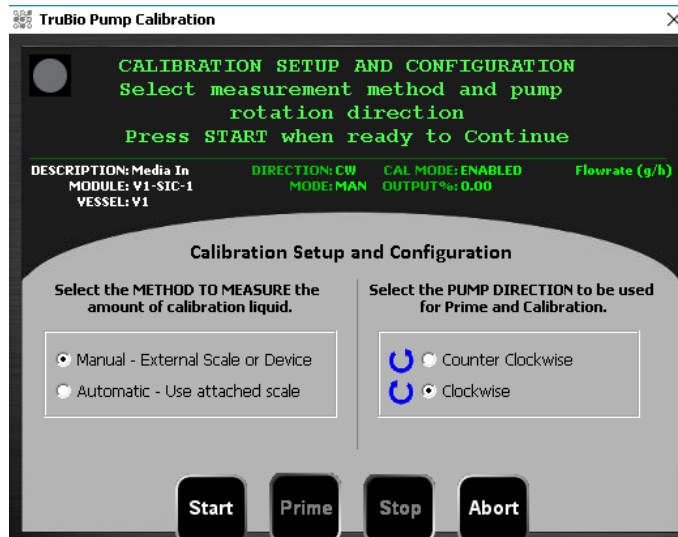

Figure 2.36. Selecting method and pump direction for calibration.
7. Select the method (manual or automatic) and the pump direction (Figure 2.36). Then, click **Start**.